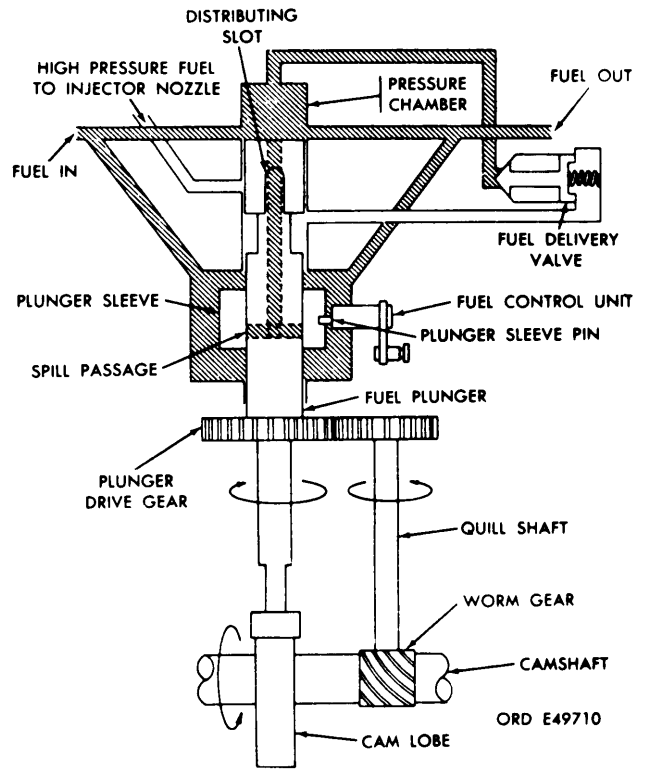
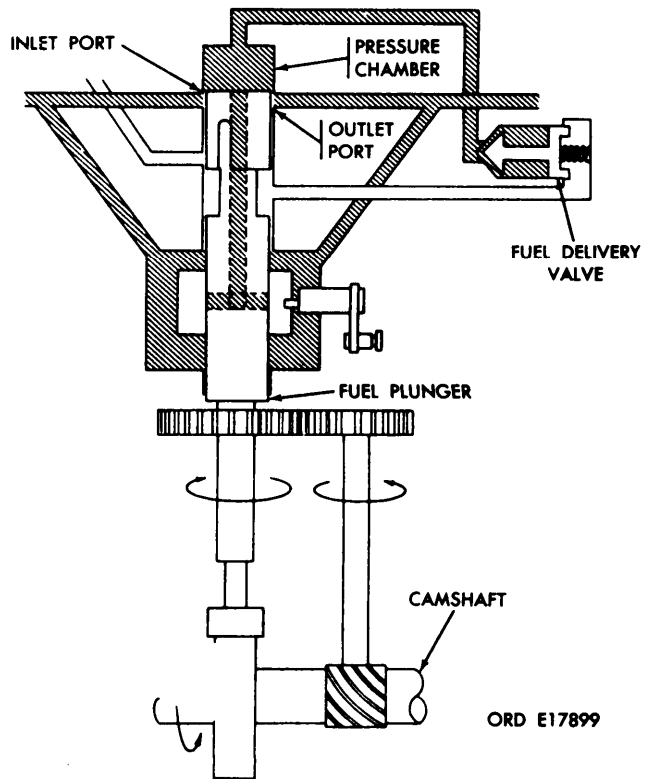
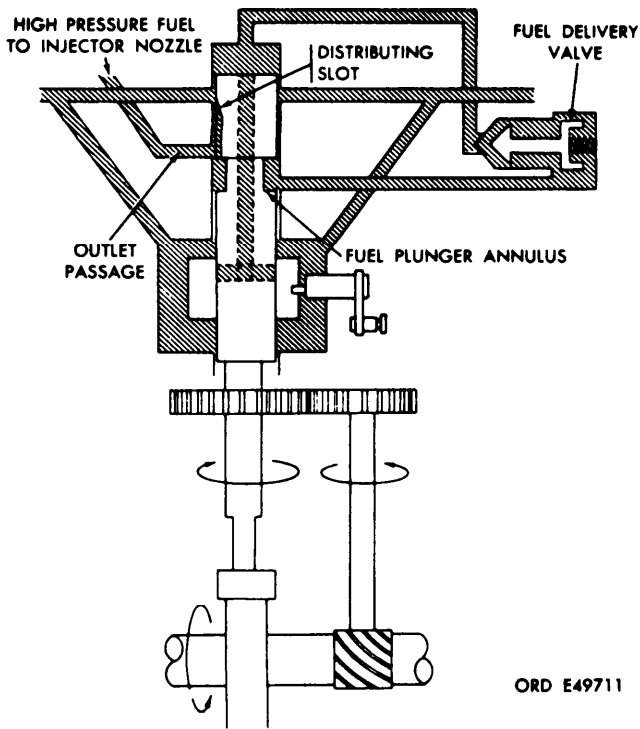
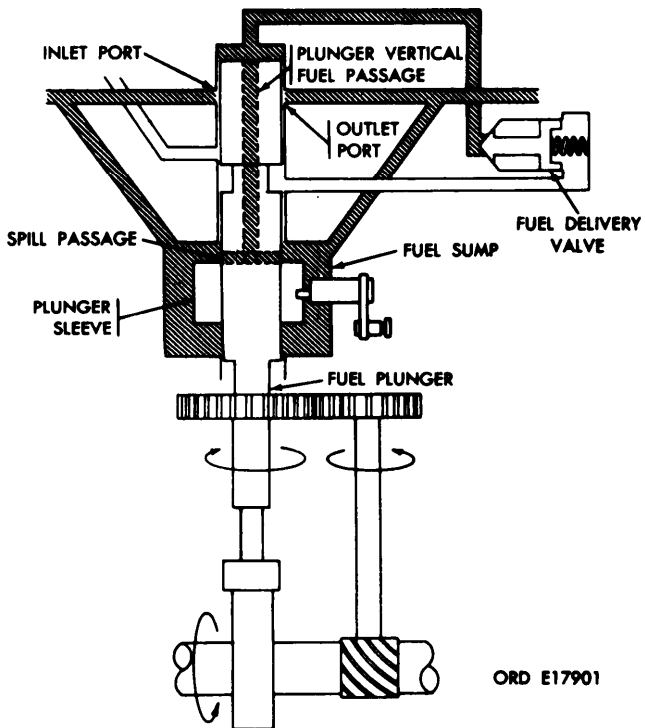

Figure 1-24. Fuel intake flow diagram.
Figure 1-25. Beginning of fuel delivery flow diagram.
Figure 1-26. Fuel delivery flow diagram.
Figure 1-27. End of fuel delivery flow diagram.
b. At the intake phase (fig. 1-24), the fuel plunger is on the base circle of the camshaft, the fuel plunger is down, and fuel enters the pressure chamber. As the camshaft rotates, the fuel plunger closes off the inlet and outlet ports and is at the beginning of delivery phase (fig. 1-25). The fuel in the pressure chamber is pressurized and starts to open the fuel delivery valve. At the delivery phase (fig. 1-26) the fuel is under sufficient pressure to fully open the fuel delivery valve. This highly pressurized fuel then flows around the fuel plunger annulus, through the distributing slot, which is now aligned with one of the six outlet passages, and out the outlet passage to the injector nozzle. At the end of delivery phase (fig. 1-27), after sufficient upward movement of the fuel plunger, the spill passages passes over the edge of the plunger sleeve. The fuel pressure then escapes down the plunger vertical fuel passage into the fuel sump which is at supply pressure. The reduction of pressure causes the fuel delivery valve to close.
1-24. Fuel Metering and Control. *a.* The quantity of fuel delivered per stroke is governed by variation in the position of the plunger sleeve (fig. 1-27) with relation to the fixed port closing position (the point at which the top of the fuel plunger covers the fuel